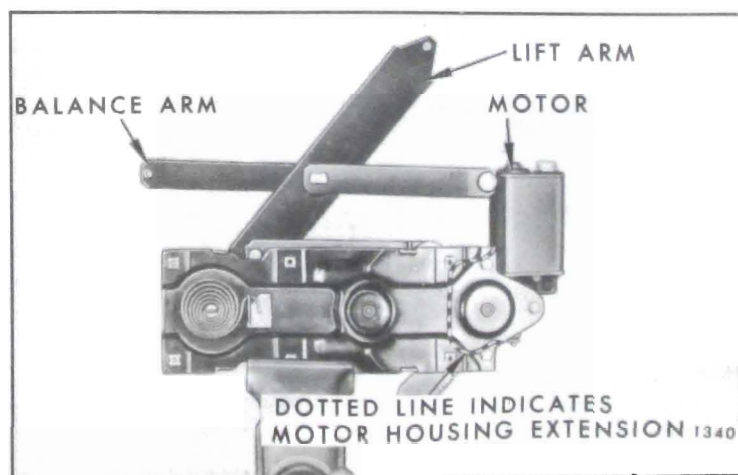

Fig. 7-96—Door Window Regulator and Electric Motor Assembly
1. Remove front door window electric regulator and clamp assembly in a vise (Fig. 7-96).
**IMPORTANT:** DO NOT drill into the motor housing, part of which is indicated by the dotted line illustrated in Figure 7-96. In addition, locate hole sufficient distance from edge of sector gear to insure proper retention of sector gear to back plate.
4. Remove regulator motor attaching bolts and remove motor from regulator assembly. (Fig. 7-96).